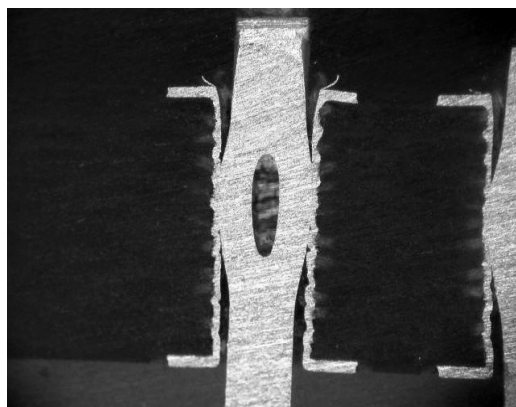

Figure 3: PCB Hole Damage-Cross-section perpendicular to the board surface.
- c. PCB Hole Wall Damage-Cross-section perpendicular to the board surface(see figure 3), and through the EON section wear track. Photograph and measure the copper thickness remaining between the EON pin and the printed wiring board laminate. Include 10 holes. The minimum average (of 10 holes) copper thickness remaining between the EON pin and the printed wiring board laminate shall not be less than 0.00762mm(0.0003 inch). In addition there shall be no copper cracks, separations between conductive interfaces, or laminate-to-copper separations. Reference MIL-STD-2166.